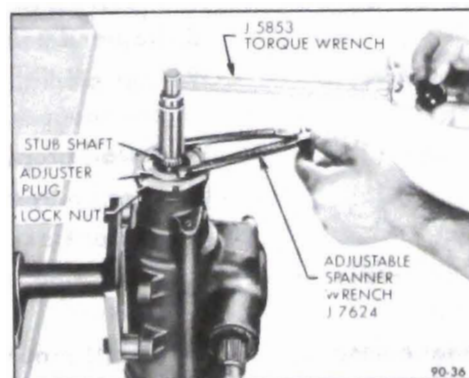

Figure 90-86 Adjusting Thrust Bearing Preload
7. Tighten adjuster plug until torque to turn stub shaft is 3 to 4 lb. in. greater than drag torque (with lock nut tightened). See Figure 90-86. Torque to turn stub shaft (drag plus thrust bearing) must not exceed 7 lb. in.
(e) Excessive back pressure caused by hoses or steering gear.	(e) Locate restriction and correct. With pressure gauge installed in pressure hose between pump and gear and engine running at 1500 RPM, oil warm, and no effort on the steering wheel. See Figure 90-86. Pressure should not exceed specification. Check operation of check valve poppet, paragraph 90-21, subparagraph c, Step 6.